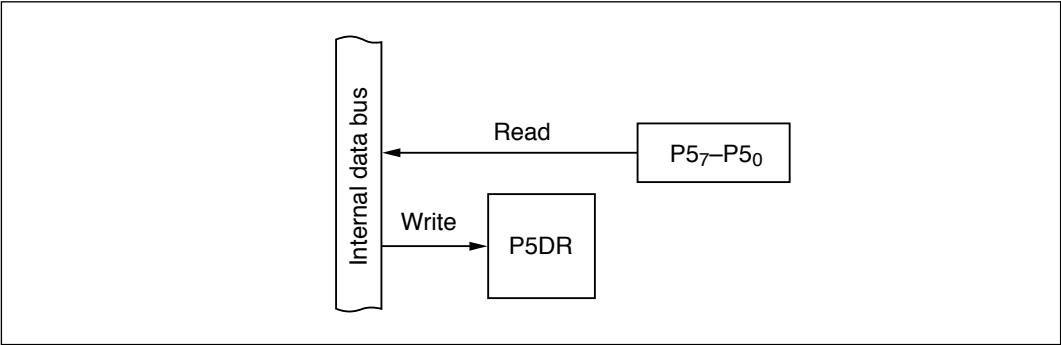

Figure 9-29 Input Port (Modes 1 to 7)
- (1) Input Port (Modes 1 to 7):** Figure 9-29 shows a block diagram illustrating the general-purpose input function. Table 9-21 indicates register read/write data. Values written in the port 5 data register (P5DR) have no effect on general-purpose input lines. When read, P5DR returns the value at the pin.